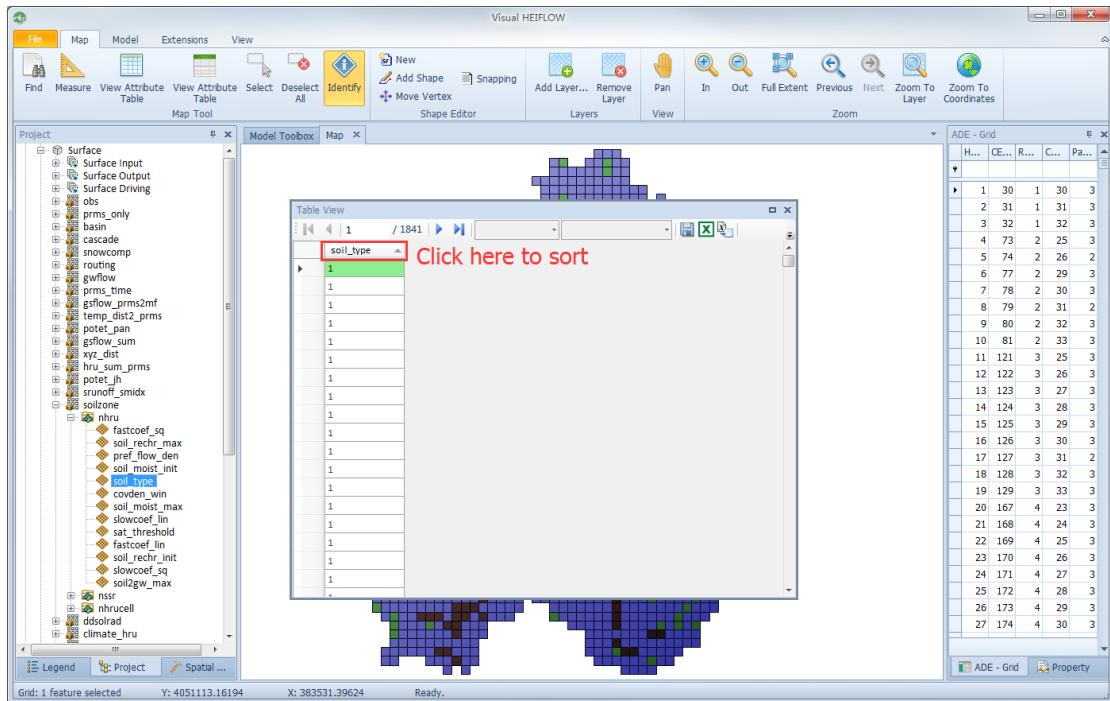

Figure 5-9. Table View of the soil_type parameter
- 9) Double-click on the soil_type parameter, the Table View presents values of this parameter (Figure 5-9):